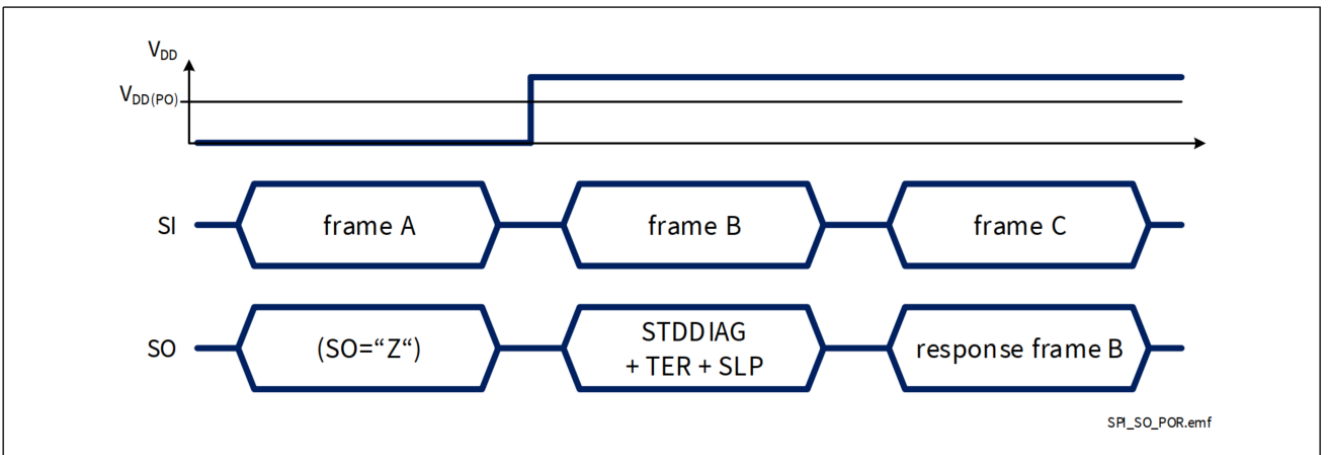

Figure 44 SPI response after coming out of Power-On reset at V_{DD}
- BTS71220-4ESP 数字电源不满足上电复位条件时，如图 44